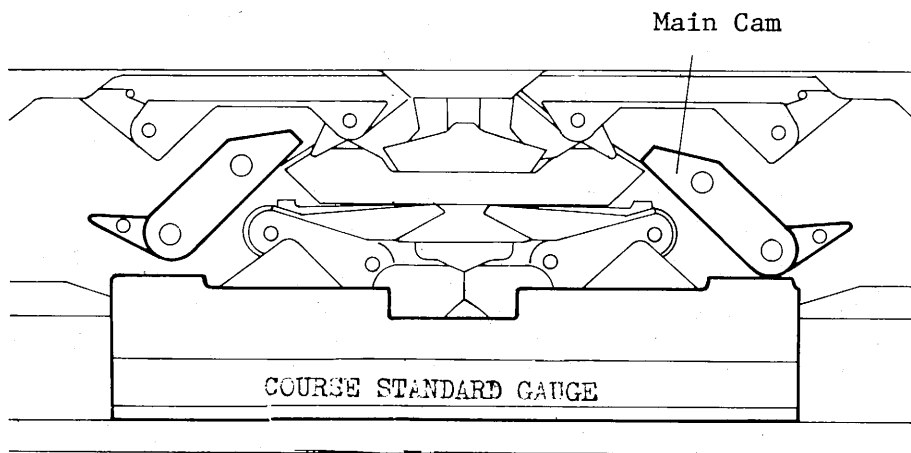

Fig. 38
- (2) Adjusting Sub Cams as shown in Fig. 38 and setting Dial at a graduation No. 1, turn over Carriage and insert Course Standard Gauge into Carriage Sideward.